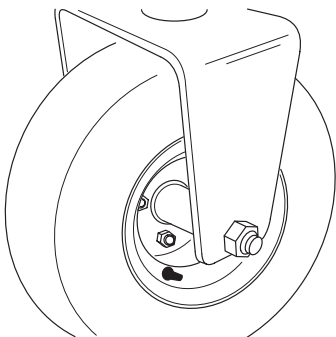

Figure 5
4. Position the bend of the bolt head under the bottom edge of the castor fork. Install and tighten the locknut to secure the wheel to the castor fork (Fig. 5).